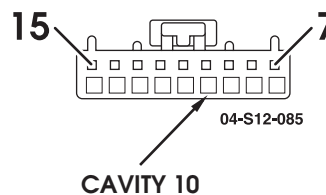

Figure 3: Digital ratio adapter 9 pin connector.
13. For 1999, 2001 and 2002 model year vehicles, locate the main harness end with the connectors for the control module and the single yellow wire with a bare terminal. Also locate the speedometer reference cavity 10 of the 9 pin connector on the digital ratio adapter and insert the yellow wire (See Figure 3).
14. For model year 2000 vehicles, locate the main harness end with the connectors for the control module and the single yellow wire with a bare terminal. Also locate the yellow speedometer reference wire at terminal 10 of the 9 pin connector on the digital ratio adapter (See Figure 3). Cut the terminal off the single yellow wire of the main harness and cut the speedometer reference wire about 2 inches from the digital ratio adapter connector. Splice by soldering all three wire ends and seal with the supplied heat shrink tubing.